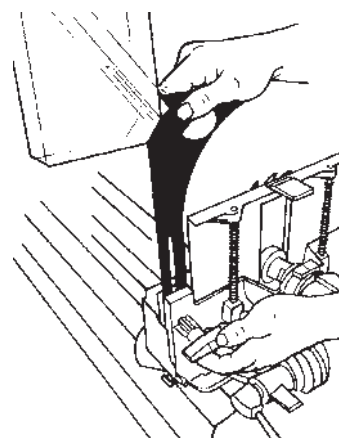

Figure B-108
82. Loosen the guard lock knob (210) and insert the upper saw guard's riving knife (199) between the guard (213) and the lock plate (208), as demonstrated in Figure B-108.